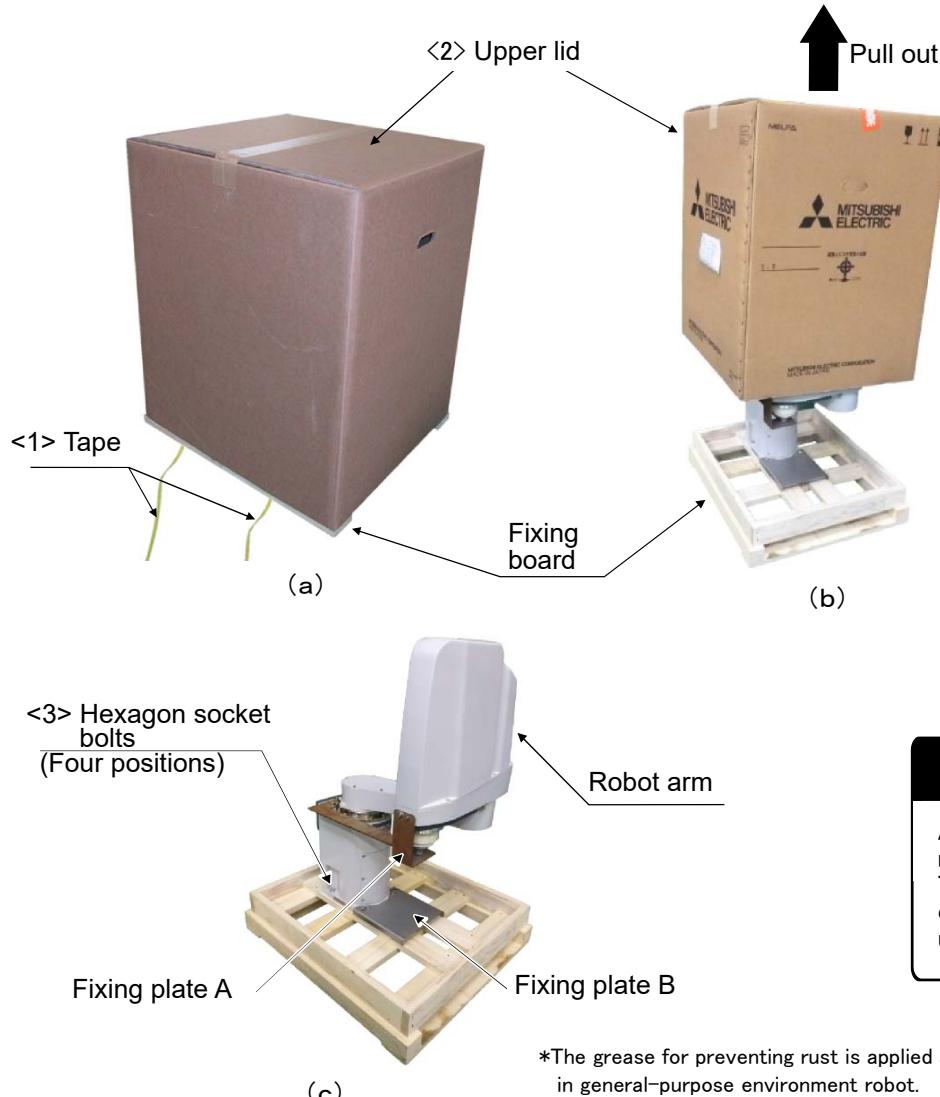

Fig.2-1 : Unpacking the robot arm (RH-3FRH/6FRH/12FRH/20FRH series)
The robot is shipped from the factory in cardboard and plywood frame packing. Always refer to Fig. 2-1 and unpack the robot. Handle the robot arm according to "2.2.2 Transportation procedures".
- 1) Using a knife, etc., slit the tape <1> fixing the upper lid <2> of the cardboard box. (Fig. 2-1 \(a\))
- 2) Pull the upper lid <2> of the cardboard box off with both hands. (Fig. 2-1 \(b\))
- 3) Remove the hexagon socket bolts <3> (four positions) which fix the robot. (Fig. 2-1 \(c\))